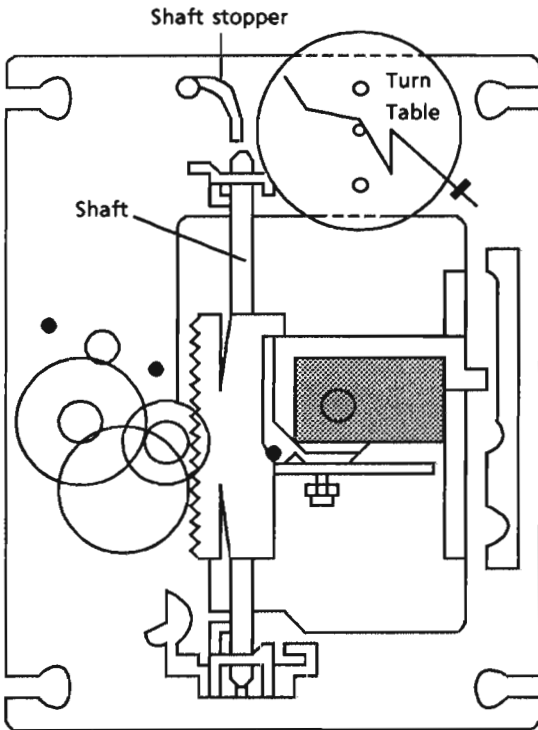

Fig. 6 : CD mechanism assembly
2. Release the shaft to remove the pickup (Fig 6).